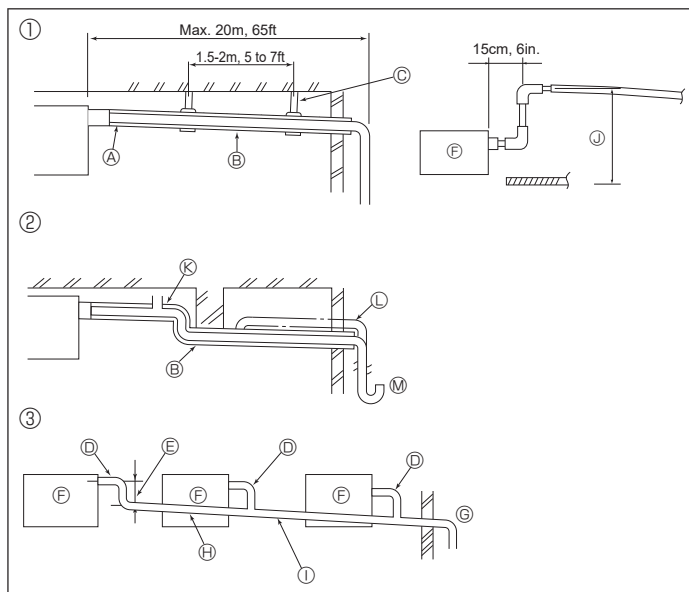

Fig. 5-1
5.1. Drainage piping work (Fig. 5-1)
- ① Correct piping
- ② Wrong piping